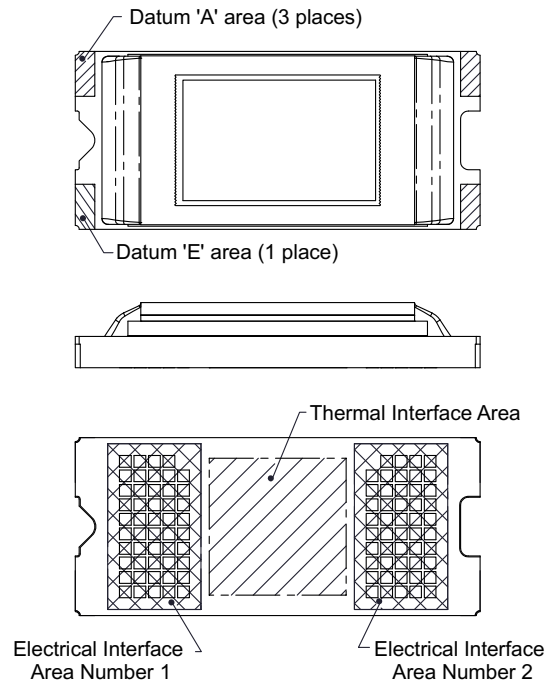

Figure 3. System Interface Loads for FQD
(1) See Section 7.1 and Figure 3 for diagrams.
(2) See Mounting Concepts DLP4500FQD.